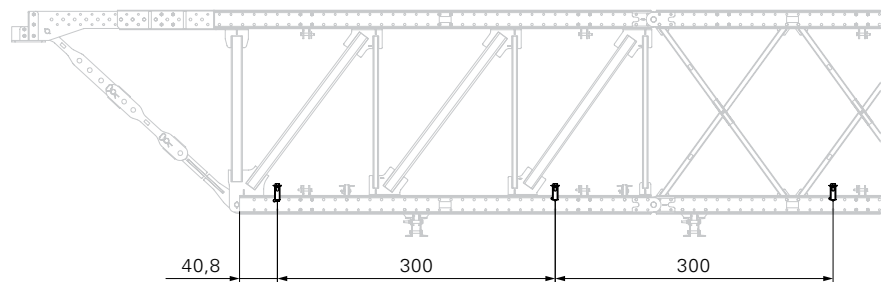

Fig. D1.07
3. Mount additional Bracket Connectors (80) at a distance of 300 cm. (Fig. D1.07)